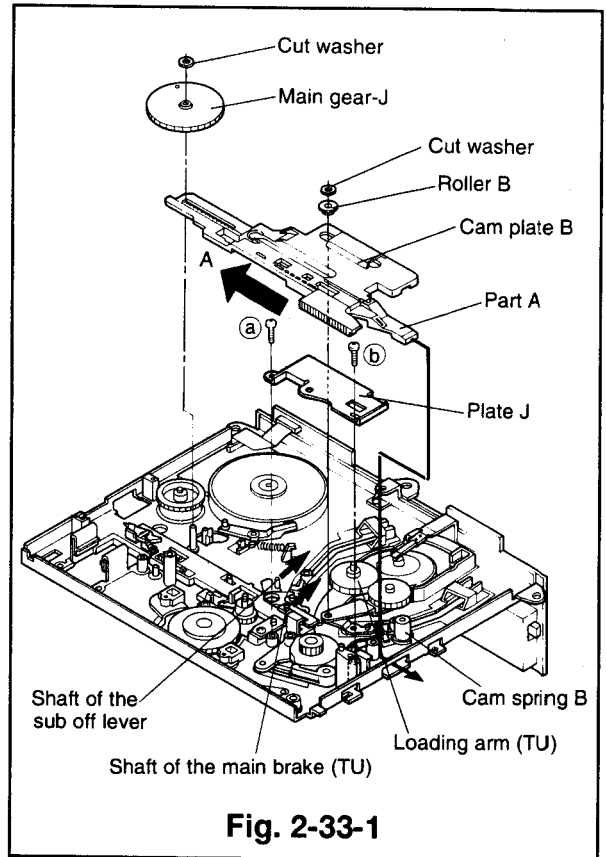
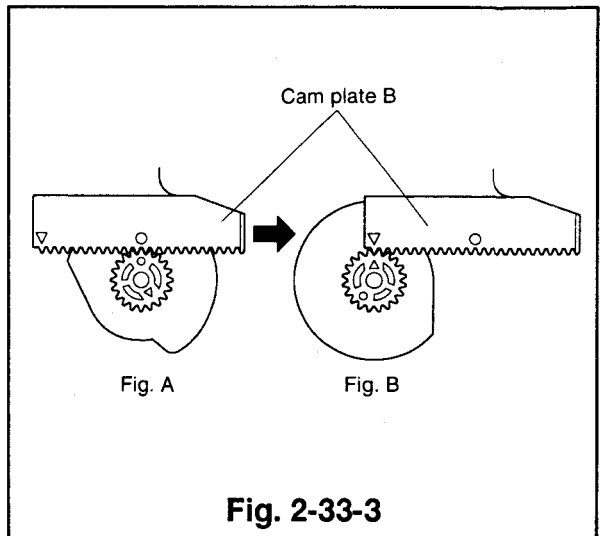

Fig. 2-33-1
Fig. 2-33-3
- ① Remove the two screws (a) and (b) to remove the plate J. (Fig. 2-33-1)
- ② Take off the cut washer fixed to the shaft of the loading arm (TU) to remove the roller B.
- ③ Remove the reel belt. (Refer to Para. 2-28 for the removal method.)
- ④ Remove the belt pulley. (Refer to Para. 2-28 for the removal method.)
- ⑤ Remove the loading motor assembly (which holds the motor holder). (Refer to Para. 2-29 for the removal method.)
- ⑥ Remove the main gear J. (Refer to Para. 2-30 for the removal method.)
- ⑦ Slide the cam plate B to the left (the direction shown by the arrow) to remove it.
- ③ Passing part A of the cam plate B under cam spring B insert it into the hole on the side of the main plate, as shown by the continuous line. (Refer to Fig. 2-33-1)
- ④ While keeping the rear section of cam plate B raised, align the cam plate B and the cam gear R so that the ○ marks align with each other as shown in Fig. 2-33-3 (Fig. A). Still keeping the rear of cam plate B raised, slide it to the right until the △ marks on cam plate B and cam gear R align, refer Fig. 2-33-3 (Fig. B). From this position lower the rear of the cam plate B unto the already aligned loading gears TU and SP, refer 2 above. Shift the sub off lever and the main brake TU in the directions shown by the arrows to install them. (Refer to Fig. 2-33-1)
- ⑤ Fix the roller B to the shaft of the loading arm (TU) and secure it with the new cut washer.
- ⑥ Install the plate J and secure it with the two screws (a) and (b).
- ⑦ Install the main gear J. (Refer to Para. 2-30 for the installation method.)
- ⑧ Install the loading motor assembly (which holds the motor holder). (Refer to Para. 2-29 for the installation method.)
- ⑨ Install the belt pulley. (Refer to Para. 2-28 for the installation method.)
- ⑩ Fasten the reel belt. (Refer to Para. 2-28 for the installation method.)